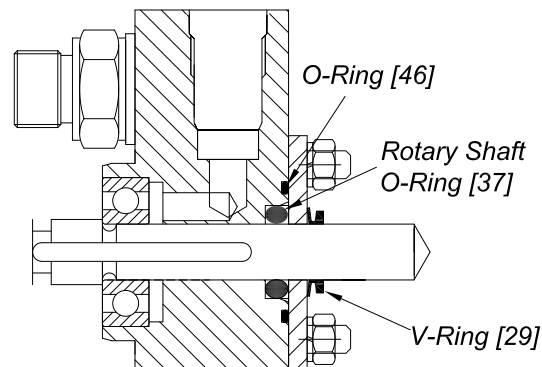

Figure 5: Backhead Seal Fitting
26. Grease a new wiper seal [35] and fit to the retaining nut [12] **noting the orientation of the wiper seal as shown in the Figure 5: "Retaining Nut Wiper Seal [35] Fitting" below.**